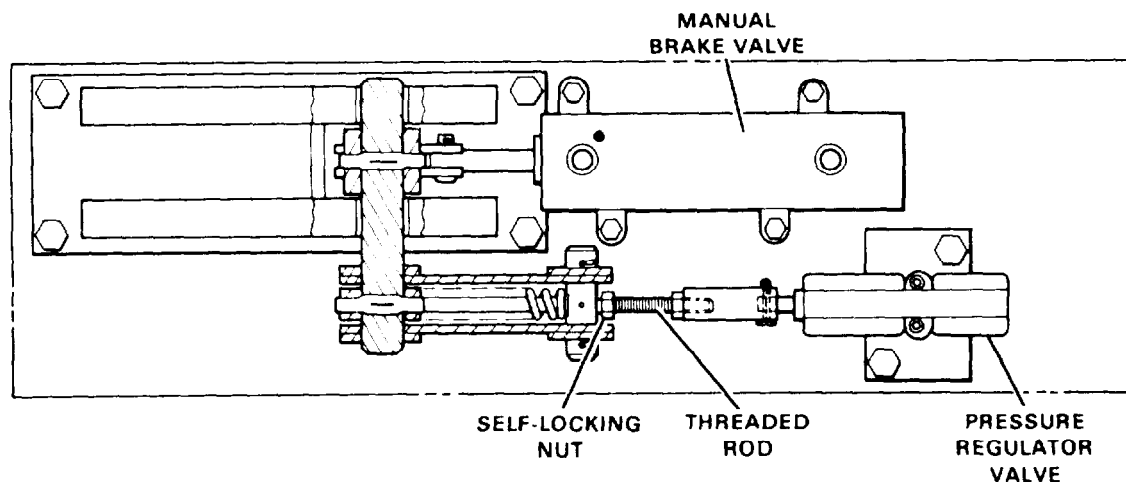

Figure 7C-3. Pedal Linkage Adjustment (2100J978)
3. If there was any downward drift of the load during the test performance in step 1, the nut on the brake band adjusting bolt must be tightened (see Figure 7C-1).
When the operator engages a planetary brake by means of the control lever, hydraulic fluid is directed to the planetary brake cylinder. With hydraulic pressure applied to the cylinder, its piston extends and applies force to the linkage which contracts the brake bands and sets the brake (see Figure 7C-4):
**REMOVAL.** To remove the planetary brake bands, proceed as follows (see Figure 7C-5):